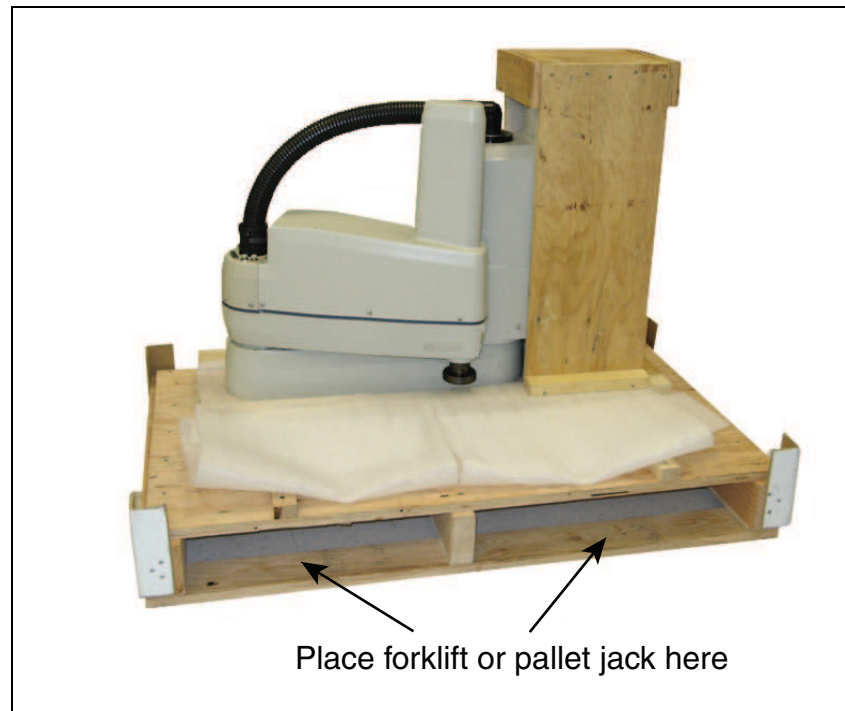

Figure 3-5. eCobra 800 Inverted Robot on a Transportation Pallet
3. Remove the four screws on top of the wooden robot base protection box. See Figure 3-5.